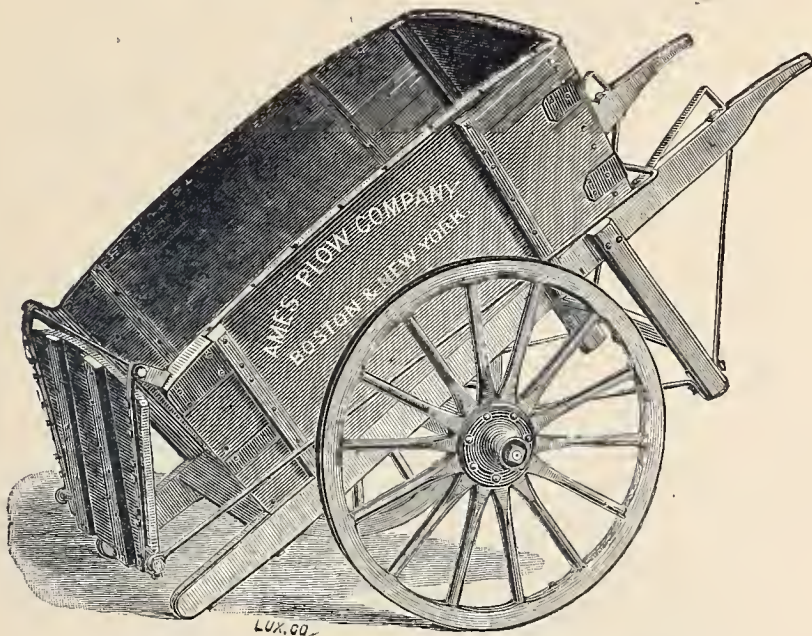

Fig. 531. — Extra Two-Wheel Run-Barrow.
*The Extra Two-Wheel Run-Barrow*, represented by *Fig. 531*, is made in two sizes, — the smaller, capacity one thousand pounds; and the larger, capacity fifteen hundred pounds. It is in general use among coal, salt, and fertilizer dealers, for loading and unloading vessels. The inside of the body is lined with sheet-iron; and it is thoroughly ironed, braced, and bolted throughout, making it very enduring. Either size can be readily operated by one man.